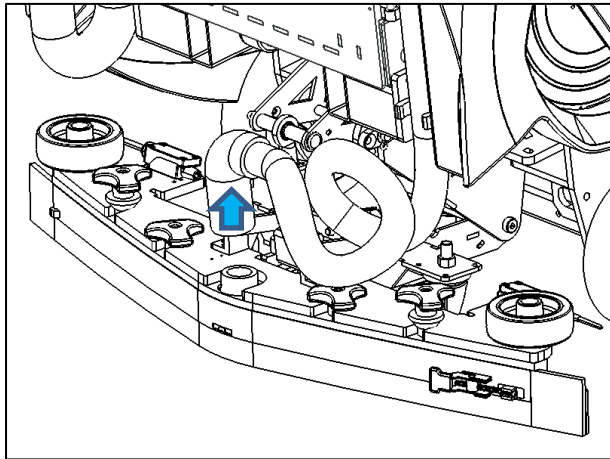

Fig. 1
1. Start by removing hose from the squeegee assembly (Fig 1).